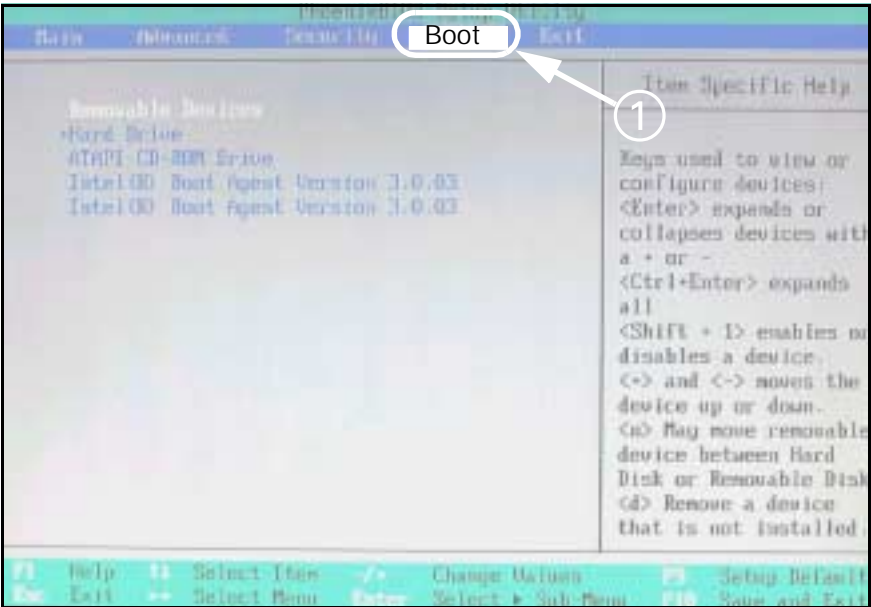

Figure 2-6 Boot settings
17) Use up/down arrow keys to select “Boot” tab (① in Figure 2-6).
18) Verify correct “Boot” order as shown in Figure 2-6.